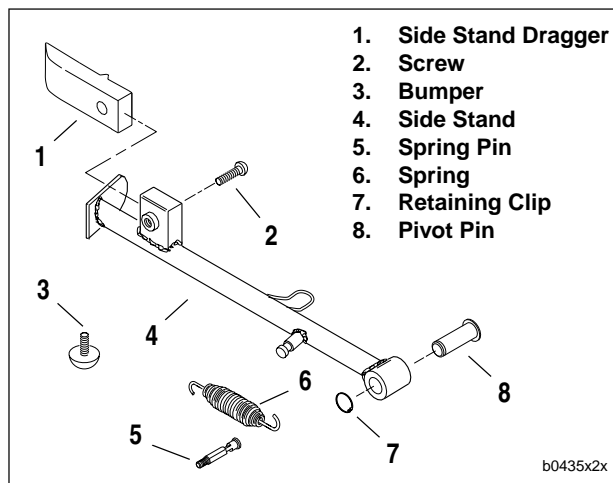

Figure 2-116. Side Stand
2. See Figure 2-116. Remove spring (6) from side stand and spring pin (5).
3. Remove retaining clip (7) and pivot pin (8). Detach side stand from frame.
4. Remove bumper (3) from frame.
5. Remove screw (2) and side stand dragger (1).
1. See Figure 2-116. Attach bumper (3) to frame.
2. Attach side stand dragger (1) to side stand with screw (2).
3. Apply LOCTITE ANTI-SEIZE to pivot pin (8). Install side stand using pivot pin (8) and retaining clip (7). Do not crush side stand switch during installation.
4. Connect spring (6) to side stand and spring pin (5).